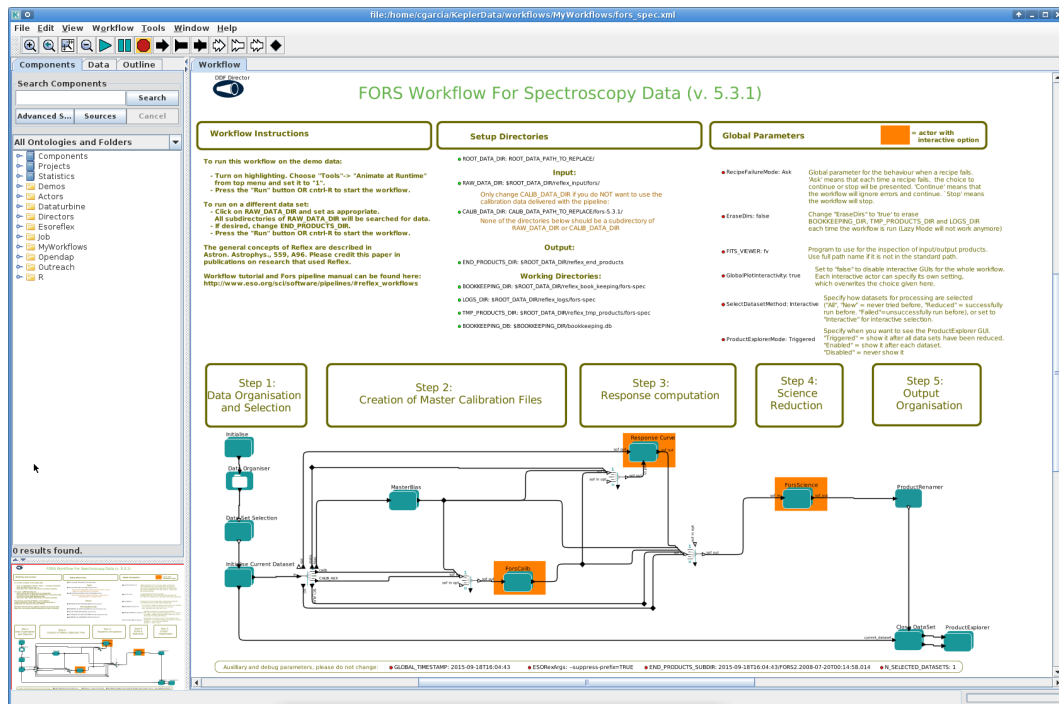

Figure 4.2: *FORS2 workflow general layout.*
2. Now open the FORS2 workflow by clicking on **File** -> **Open File**, selecting first `fors-5.3.4` and then the file `fors_spec.xml` in the file browser. You will be presented with the workflow canvas shown in Figure 4.2. Note that the workflow will appear as a canvas in a new window.